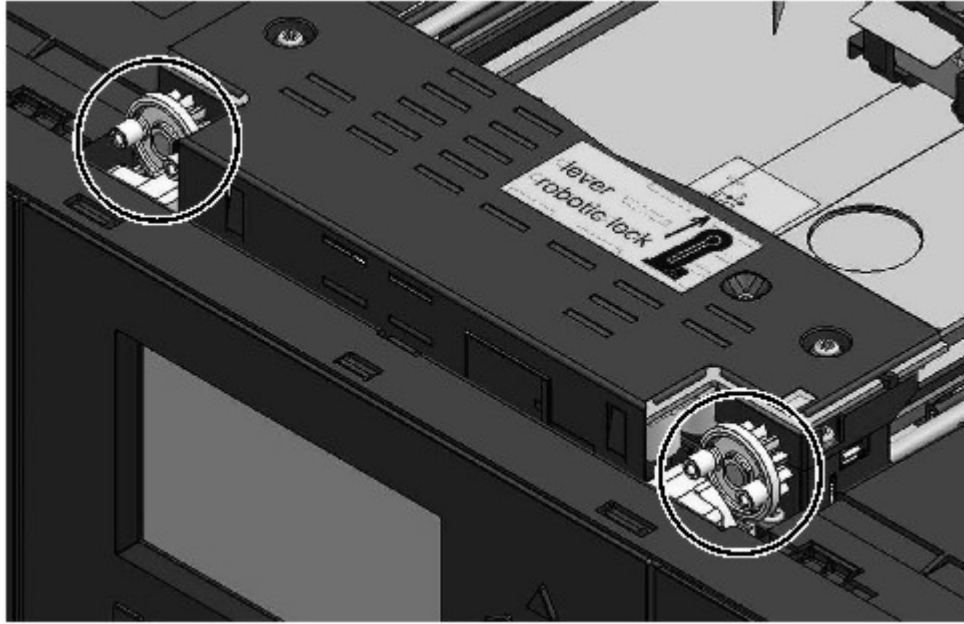

Figure 76. Pins are aligned horizontally
1. Each corner of the accessor has a gear with two protruding pins. Rotate one of the gears on the accessor so that the two pins are aligned horizontally. See Figure 76 on page 125